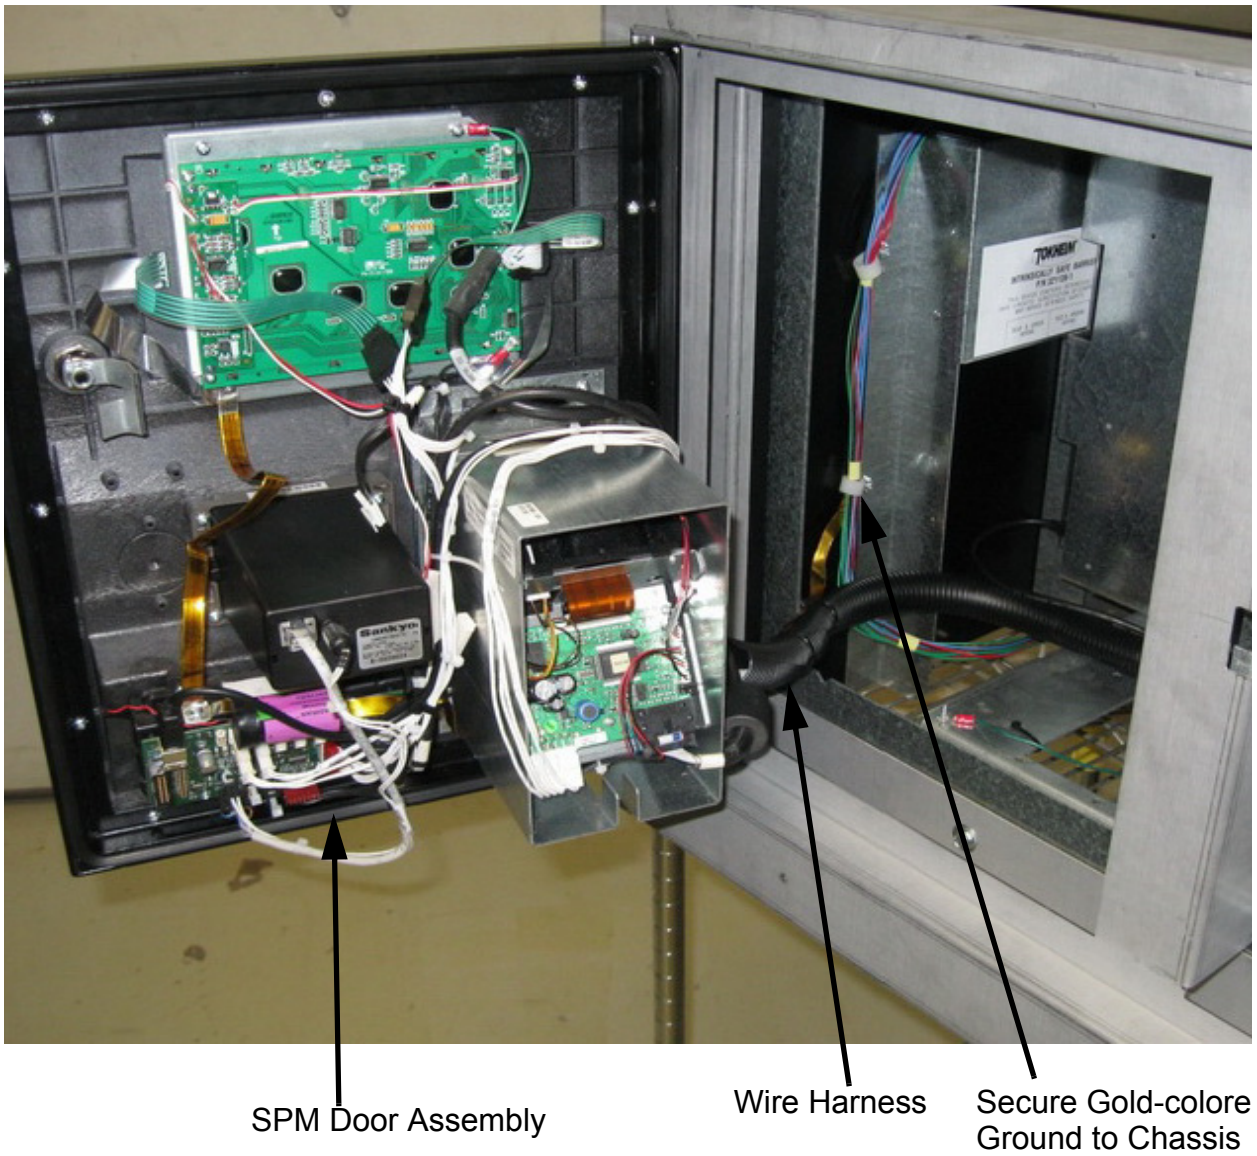

FIGURE 9
13. Install the Extension Door Frame (WU002355-0001) using (6) 1/4-20 Nuts (918210) on the stud screws on the inside of the frame. Use 7/16 nut driver (Figure 9).
18. A. Install (2) Nylon Washers (000-131445-) on the left door pin on the Extension door frame.
- B. Install (1) SPM Secure Payment Door assembly (WU001604) see Figure 9, placing bottom of door onto the pin first, folding back gasket in upper right corner and pulling down releasing pin into the extension frame.